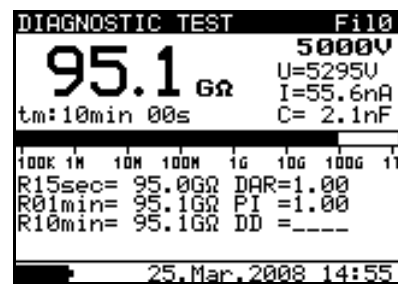
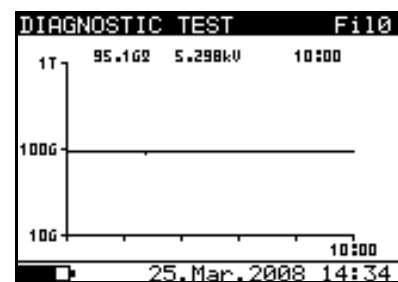

Fig. 30: Numerical screen of result
Fig. 32: Graphical screen of result
6. Wait for the end of the set Timers. The result of test is shown at display (see Fig. 30 or Fig. 32) with meaning of items described in Table 6